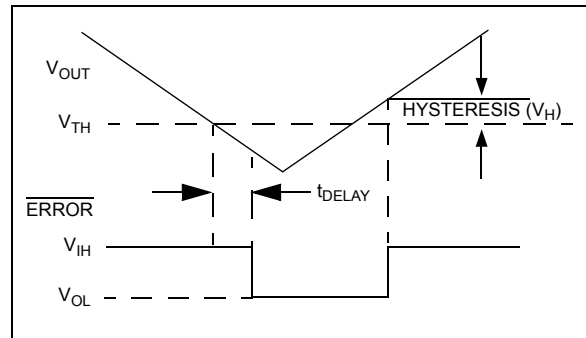

FIGURE 4-2: Error Output Operation.
ERROR is driven low whenever  $V_{OUT}$  falls out of regulation by more than -5% (typical). This condition may be caused by low input voltage, output current limiting, or thermal limiting. The ERROR output voltage value (e.g.  $\overline{\text{ERROR}} = V_{OL}$  at 4.75V (typical) for a 5.0V regulator and 2.85V (typical) for a 3.0V regulator). ERROR output operation is shown in Figure 4-2.
- Changed Figure 4-2.